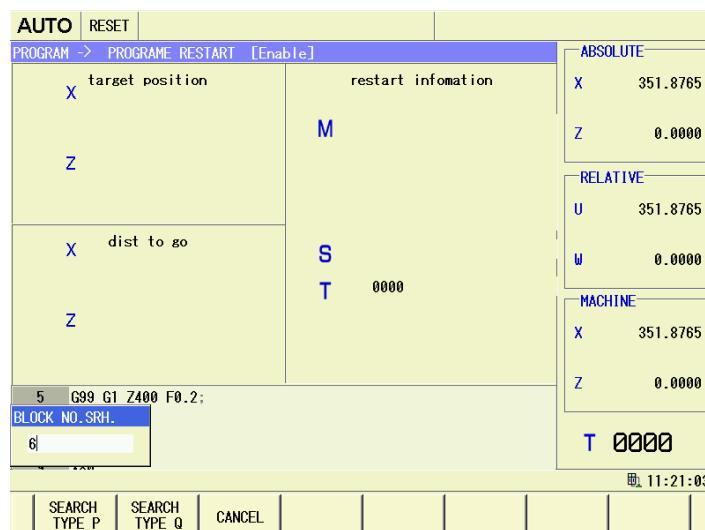

Fig.6-10
1. Input the desired restarting program of the N number or the block no. by **BLOCK NO.SRH.**, and then select the corresponding index mode by the software **N NO.SEARCH** or **SEARCH TYPE P** or **SEARCH TYPE Q**, refer to the Fig.6-10: